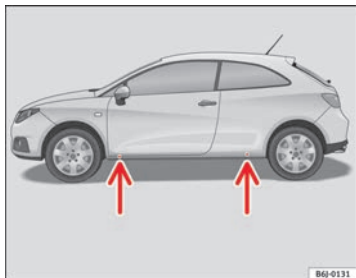

Fig. 125 The jacking points
- Locate the jacking point under the door sill closest to the wheel to be changed ⇒ fig. 125.
Recesses at the front and rear of the door sills mark the jacking points ⇒ fig. 125. There is only one jacking point for each wheel. Do not fit the jack anywhere else.